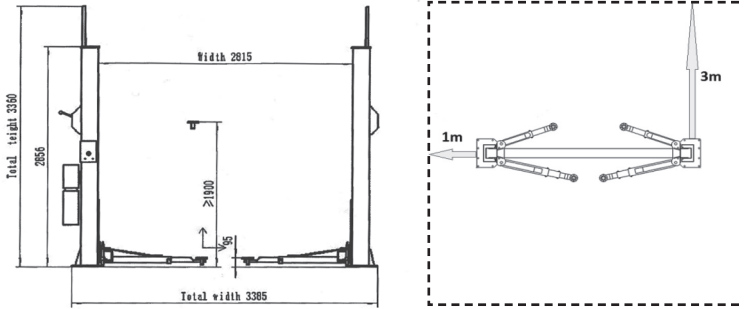

Fig. 4
3. Set out the dimensions (Appendix A) and drill holes, taking into account the safety zone (Fig. 4).